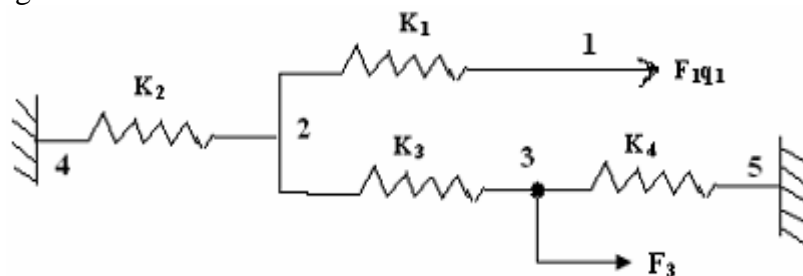

Figure.1
7. Calculate the nodal displacement of the spring system shown in Figure.1 by Rayleigh-Ritz Method. [15]